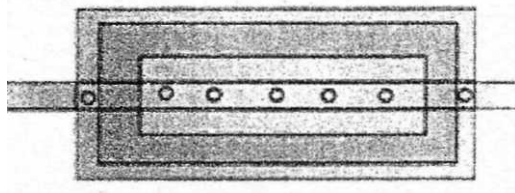

Fig. 4: Top view of recess block in box form filled with concrete (the dark-shaded area).
- Step 4.** Thoroughly saturate the interior surfaces of the box and the recess block with linseed oil or similar material to insure the form will "release" the casting when it is cured. Pour in the concrete to the point where the recess block makes an indentation. Secure the recess block to the box form and continue filling the remaining space with concrete tamping with a stick to compact the concrete. As soon as the concrete surface becomes dull (about an hour) and a trowel mark holds its shape, remove the recess block carefully. Permit the casting to "cure" for a week, wetting it frequently to assist the "curing" process (Fig. 4).